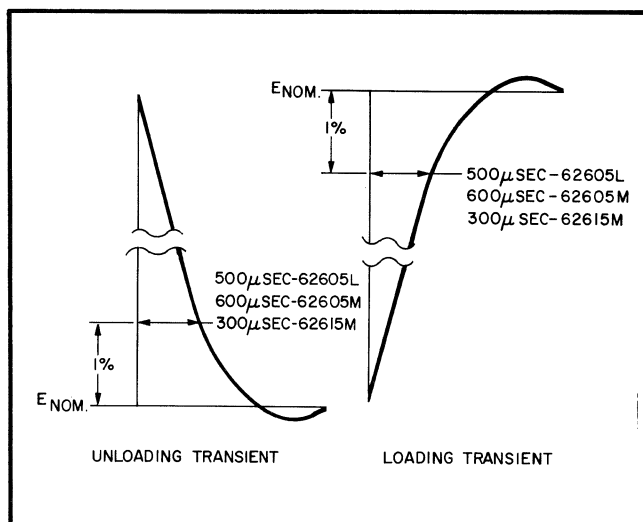

Figure 5-5. Transient Recovery Waveforms
Definition: The time "X" for output voltage recovery to within "Y" millivolts of the nominal output voltage following a "Z" amp step change in load current — where: "X" = time given in Figure 5-5, "Y" = 1%, and "Z" is the specified load current change, equal to half of the current rating of the supply. The nominal output voltage is defined as the DC level half way between the static output voltage before and after the imposed load change.
- Recovery should be within the tolerances given in Figure 5-5.